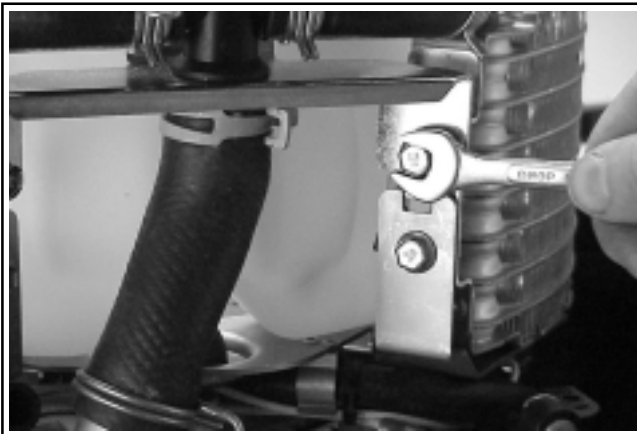

Figure 9-24. Loosening Reservoir Bracket Screws.
2. Loosen the two screws holding the overflow reservoir retainer bracket to the radiators. See Figure 9-24.